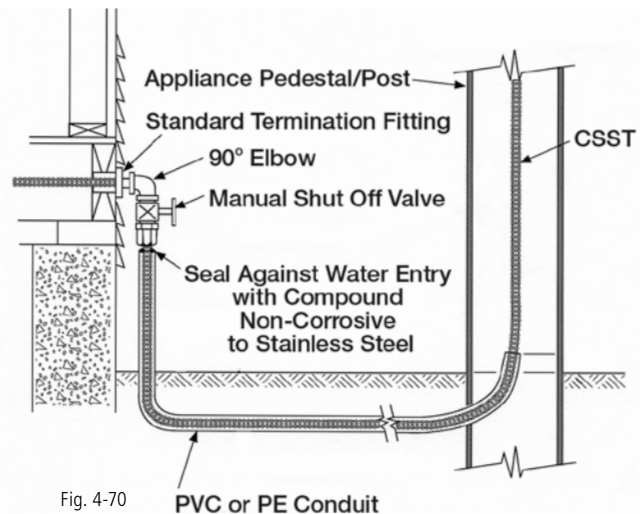

Fig. 4-70
- d) Yard Mounted Lights – Shall be connected to the Gastite®/FlashShield™ CSST system as shown in Figure 4-70. All Gastite®/FlashShield™ CSST installed below grade shall be installed in accordance with Section 4.9.